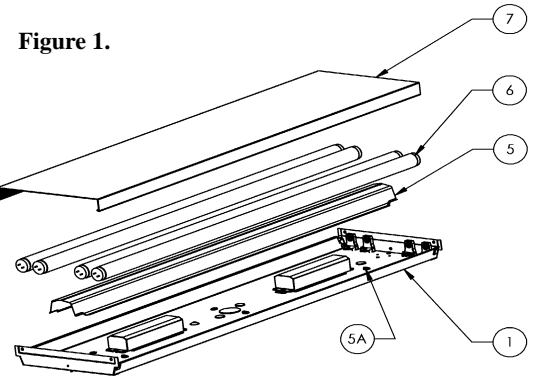

Figure 1.
- After removing fixture from carton, place unit on a flat surface. To gain access to wiring compartment, remove ballast cover (5) by pressing at the dimples on the side of the channel (5A) and rotating up and off. (Figure 1)
- Replace ballast cover (5) by placing one edge of ballast cover into dimples (5A), swing upward, press cover allowing second edge to catch second set of dimples (5A) and lock in place. Make sure no wires become crimped between cover (5) and channel (1). (Figure 1)
- Install appropriate lamps (6) (not included) by inserting lamp pins into lamp holder. Rotate into place to seat lamp for proper connection.
- Install diffuser (7) by hooking one edge onto channel and swinging the other up and over the channel.